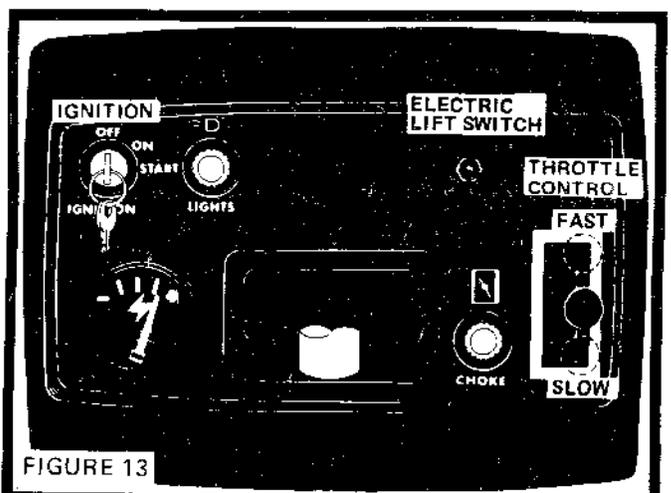

FIGURE 13
6. Move Throttle Control Lever to middle position (Fig. 13).
7. Pull Choke out (Fig. 13).
8. Turn Ignition Key to "START" position until Engine starts (Fig. 13). Release key into "ON" position.
**NOTE:** The Electric Lift Switch (Fig. 13) raises or lowers an attachment when used with an Electric Three Point Hitch (optional equipment).